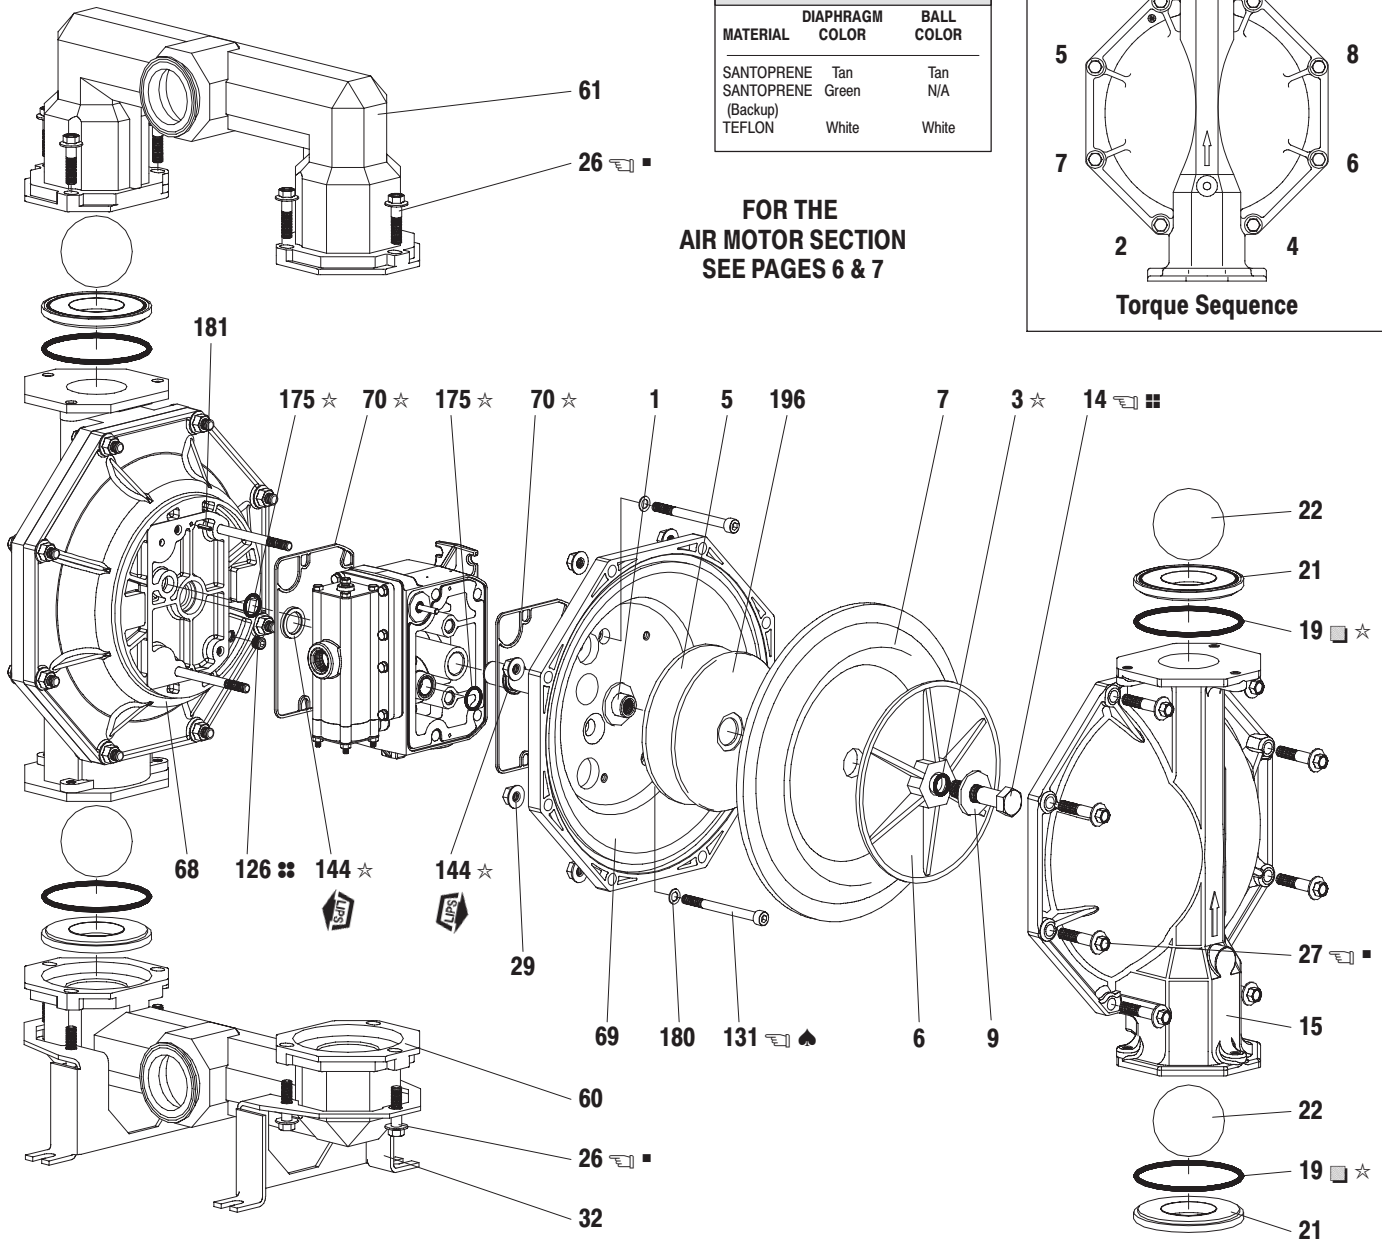

Figure 2
2. Remove (22) balls, (19) “O” rings (where applicable) and (21) seats.
3. Remove (15) fluid caps.
NOTE: Only Teflon diaphragm models use a primary (7) diaphragm and a backup (8) diaphragm. Refer to the auxiliary view in figure 2.
4. Remove the (6) diaphragm washer, (7) or (7 / 8) diaphragms, (5) backup washer and (196) cushion.